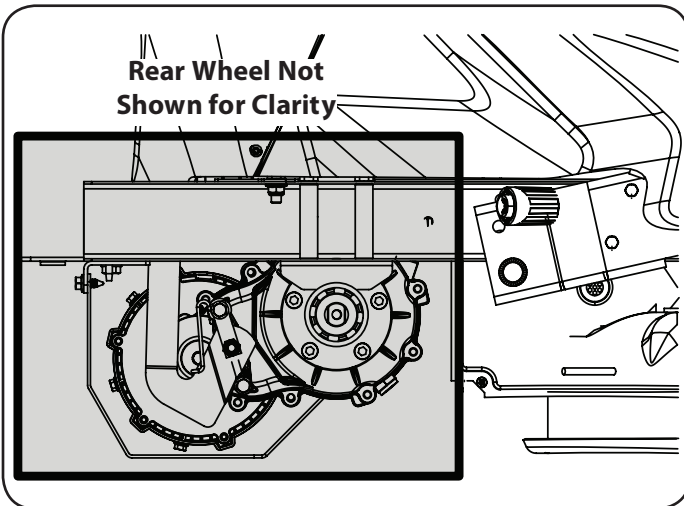

Figure 14
- Clean around and near the transmission, axle and the fan area. See Figure 14.